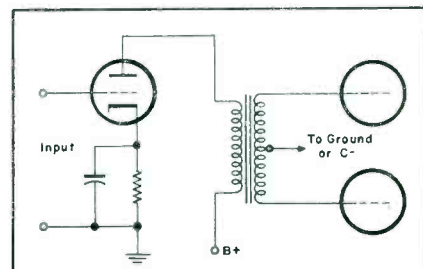

Fig. 7. Transformer phase splitter: Rugged, stable, and suited to fixed bias circuits, but bulky and expensive.
(1) The transformer phase splitter, illustrated in Fig. 7. In this circuit advantage is taken of the fact that the two ends of a transformer winding are always 180° out of phase with each other. Although transformer audio coupling was quite common in commercial sets of an earlier period, it is very rare today. Its use is generally restricted to amplifiers in which the type of bias for the output stage re-